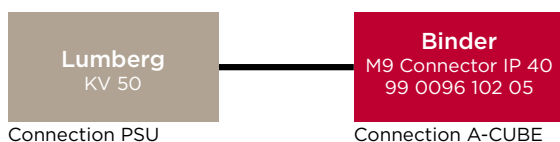

Fig. 1: Adapter cable analogue
- / Analogue adapter cable (Fig. 1)